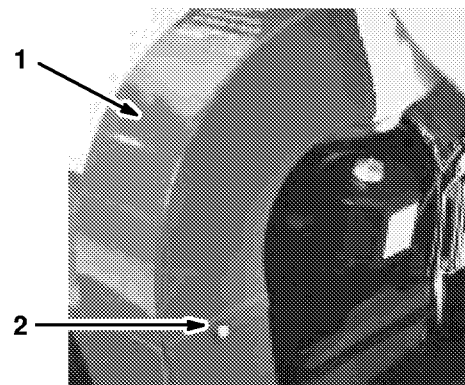

Figure 7
1. Install discharge chute and secure with 1/4" hex screw and lockwasher (Fig. 7).